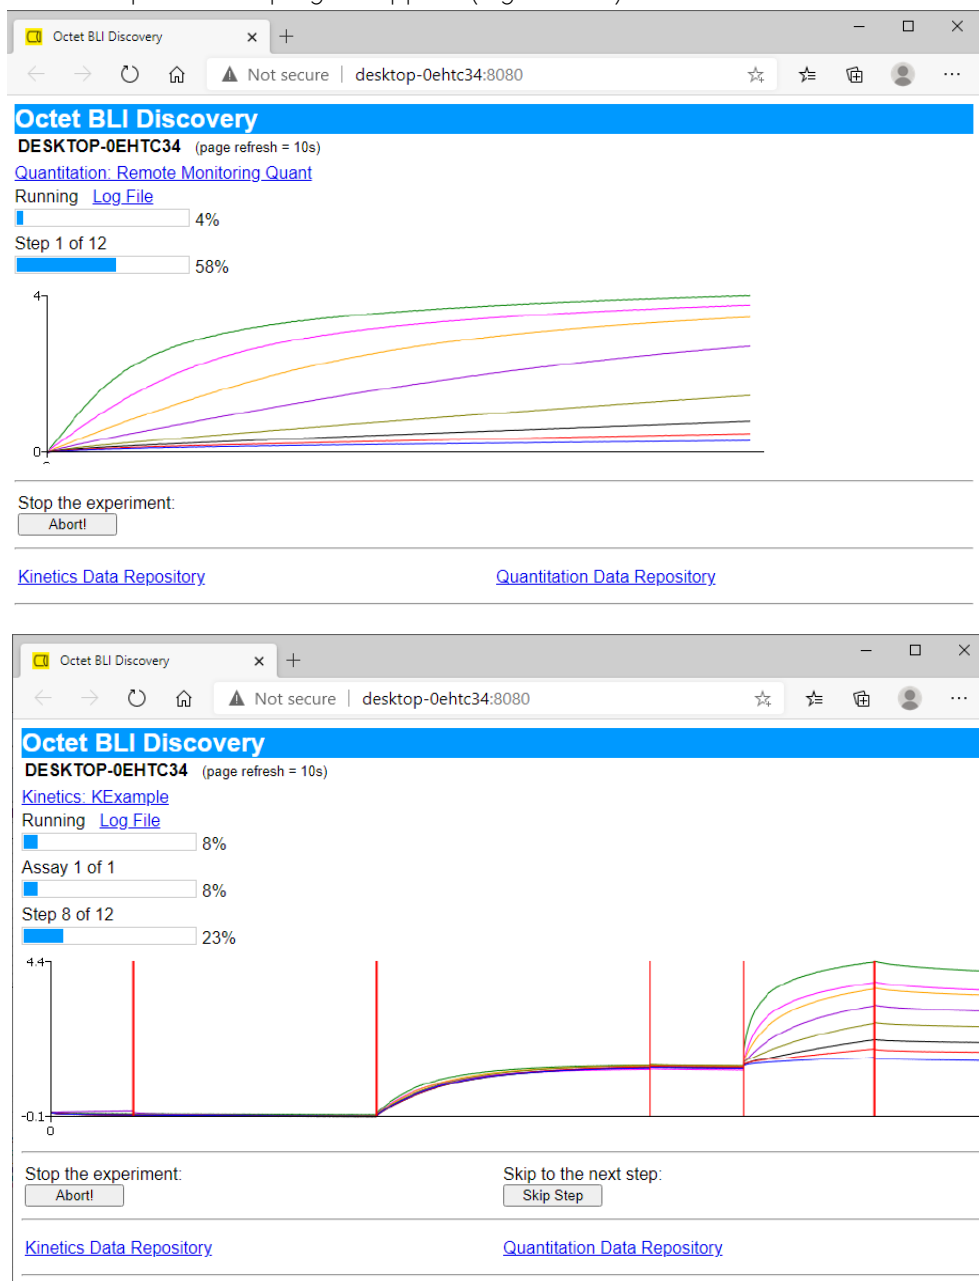

Figure 2-26: View of Quantitation Experiment (top) and Kinetics Experiment (bottom) via Web Browser
6. Enter the **Web Server URL** in the browser window or click the **Web Server URL** link in the **Options** dialog box. The experiment in progress appears (Figure 2-26).